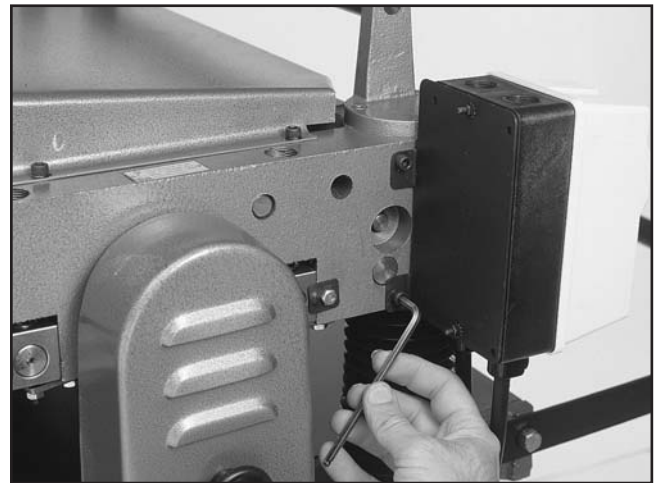

Figure 7. Attaching switch.
2. Attach the switch bracket with the two cap screws, as shown in **Figure 7**.